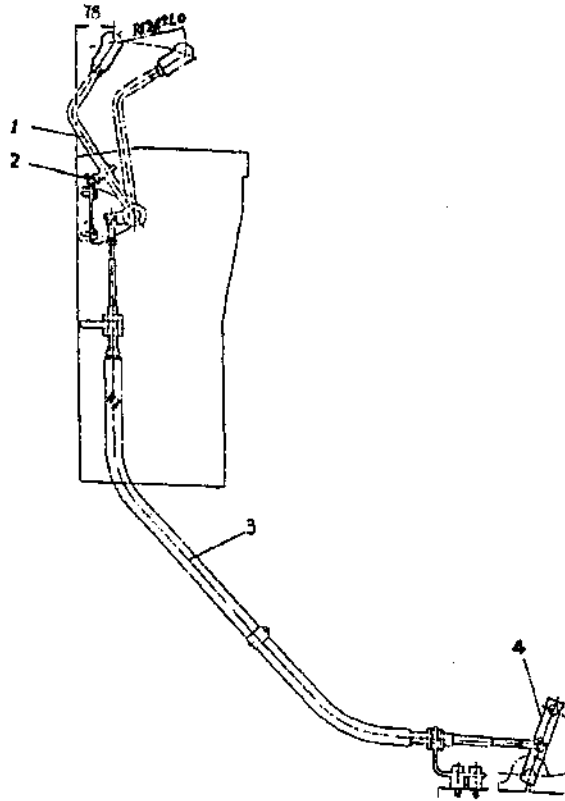

Fig. 5-32
Adjustment of steering control lever in travel of PD220Y-1 and PD220YS is shown in Fig. 5-32. The lever(1) should be positioned about 78mm from the guide side and come into contact with the plate(2). When the lever(4) is pushed forward to the machine body and slightly comes into contact with the plunger, adjust the length of flexible shaft(3) to assure no backlash at lever(1) and make sure that travel of steering control lever is 124 ± 1.0 mm.